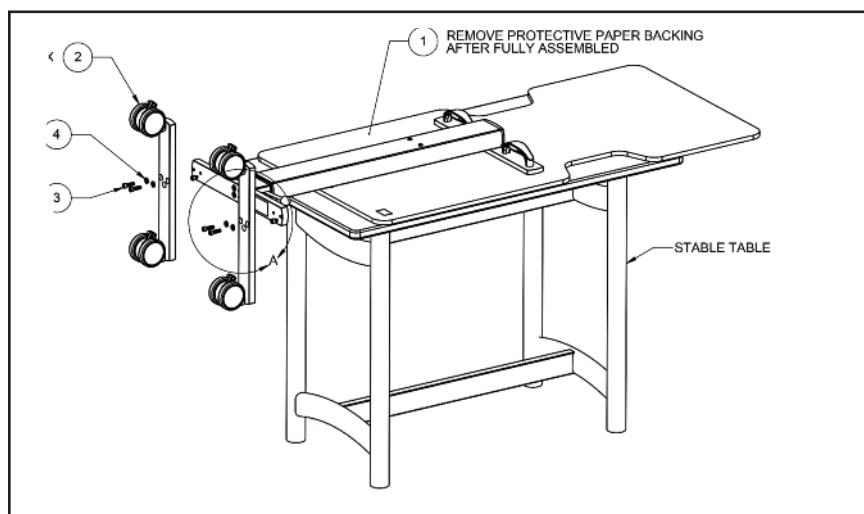

Figure 1.
2. Lay shield sub-assembly on a flat surface (e.g., table) with the bottom extending over the edge. (See Figure 1.)